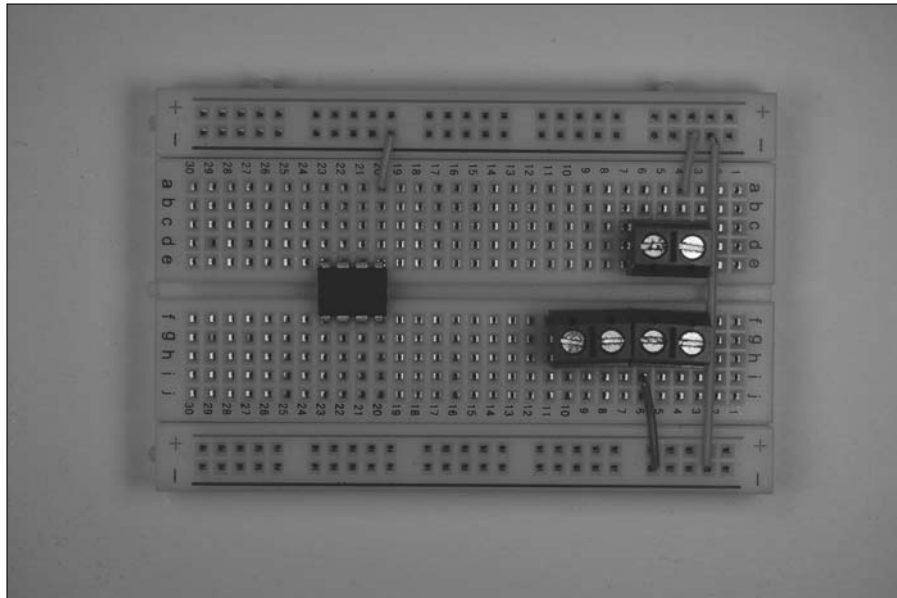

Figure 9-8:
2. Insert wires to connect the IC and the terminal blocks to the ground bus (marked with a – sign on this breadboard) and insert a wire between the two ground buses to connect them to each other, as shown in Figure 9-8.